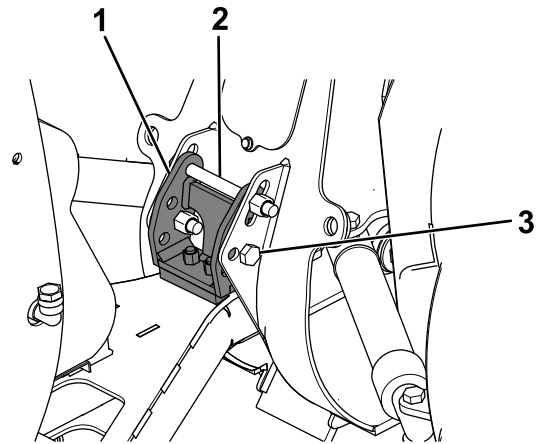

Figure 32
3. Loosen the fasteners securing the top of the bumper stop to the blade center section (Figure 32).
4. Remove the 2 fasteners securing the sides of the bumper stop to the blade center section (Figure 32).